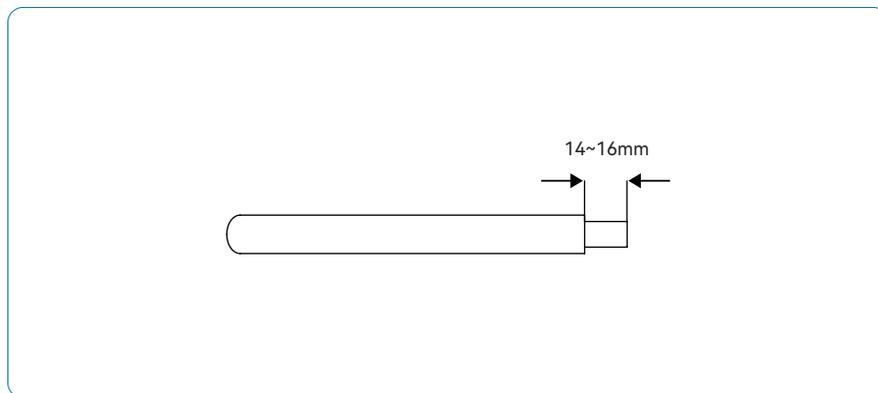

Figure 5-17
- 2) Use a wire stripper to strip off the battery cable insulation sleeve for 14~16mm, as shown in Figure 5-17: